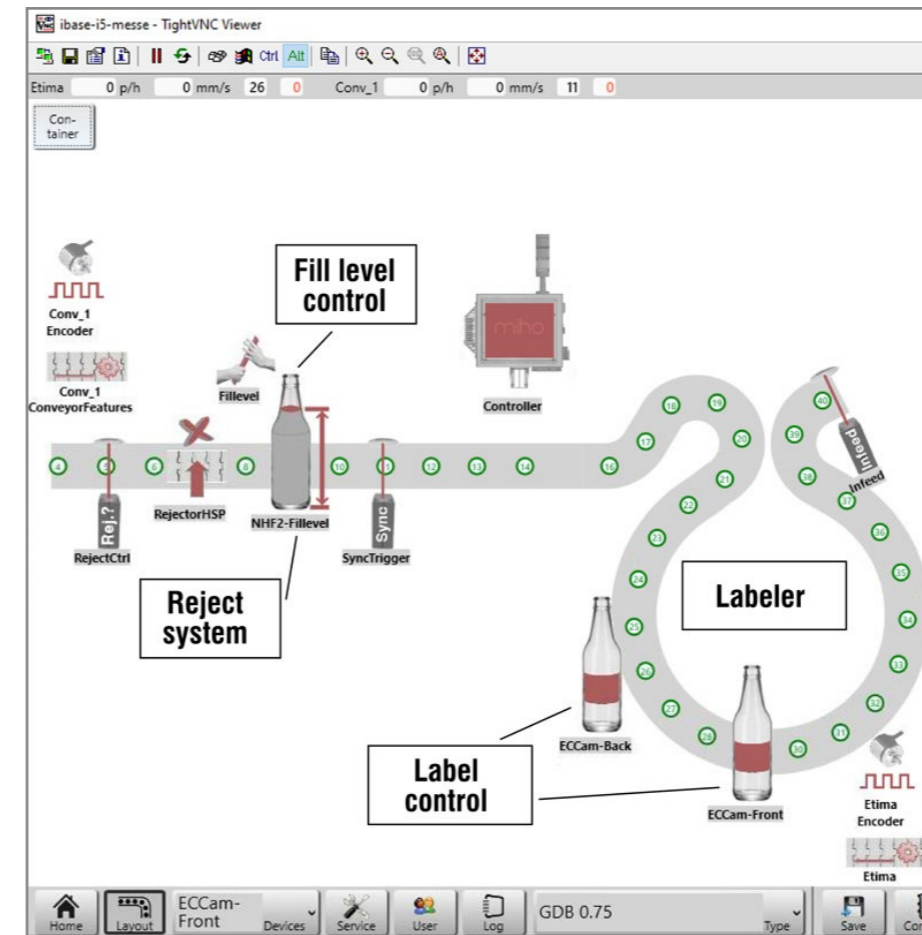

Figure 5: Representation of the HMI of an EC-Cam label inspector mounted inside labeller and combined with fill level verification.
- operating and evaluation software Vidos SC running on Windows 10 (Figure 5).
Vidos_SC, the new software platform from miho, visualizes in real-time, on the HMI (Figure 5, the complete inspection system configuration, including the peripherals such as motor encoder, infeed control, trigger light barriers, reject systems and reject monitoring. The bottle flow is simulated schematically, errors are highlighted directly via colours. All modules output their status after clicking.